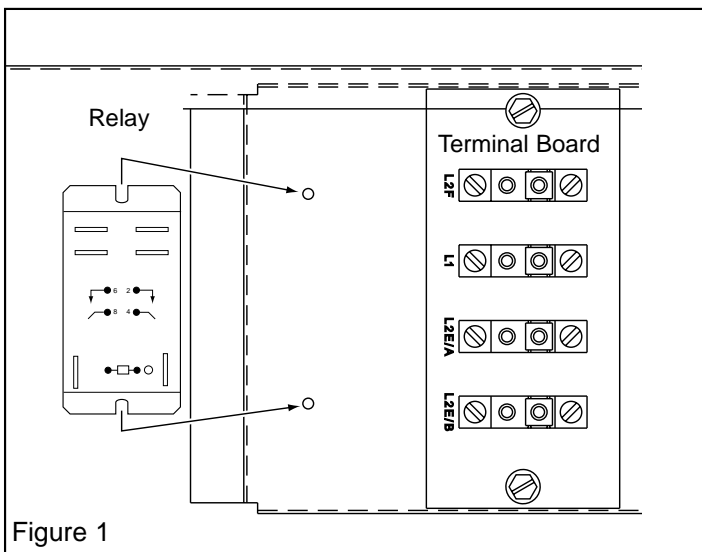

Figure 1
1. Install the power relay as shown in Figure 1, using the two screws provided for attachment.